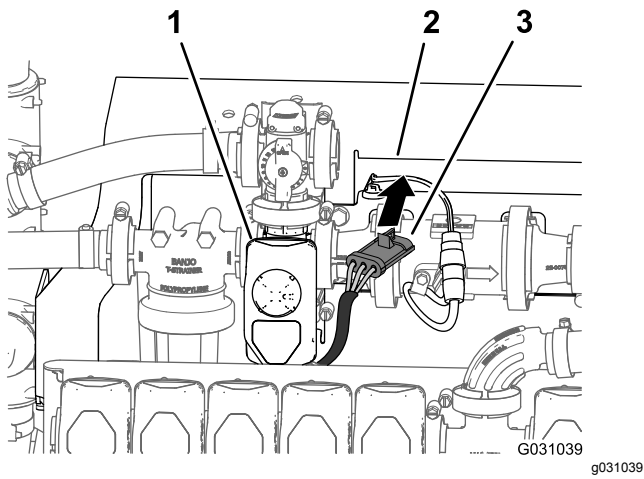

Figure 109
5. Route the 3-pin connector for the harness of the agitation valve forward of the manifold mount (Figure 109).